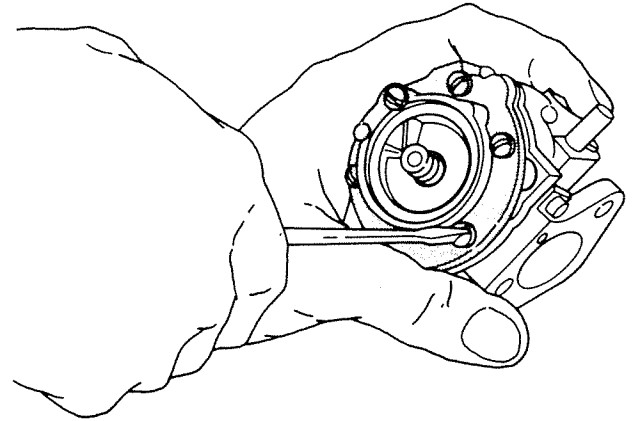

Figure 10. Removing Bottom Section.
2. Remove six (6) screws holding carburetor sections together and remove bottom section. Figure 10. Check passages for blockages. Inspect diaphragm for damage.